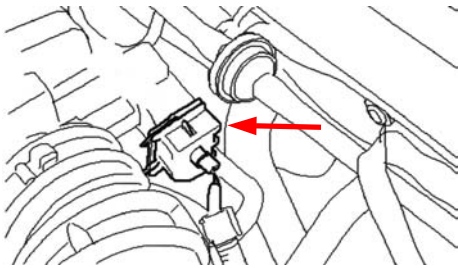

Fig. 1
- Remove the connector from the sensor (see Fig. 1)